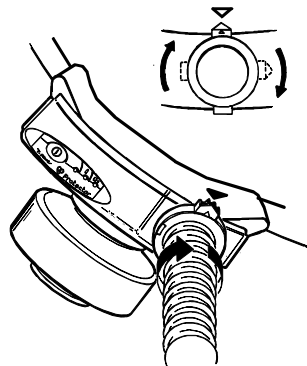

Fig 5
7. Fit the facepiece to the blower by inserting the hose connector into the blower outlet. This is only possible when the arrow on the connector is aligned with the arrow on the blower body (See Fig. 5). Rotate the connector clockwise past the notch. This secures the connector to the blower.